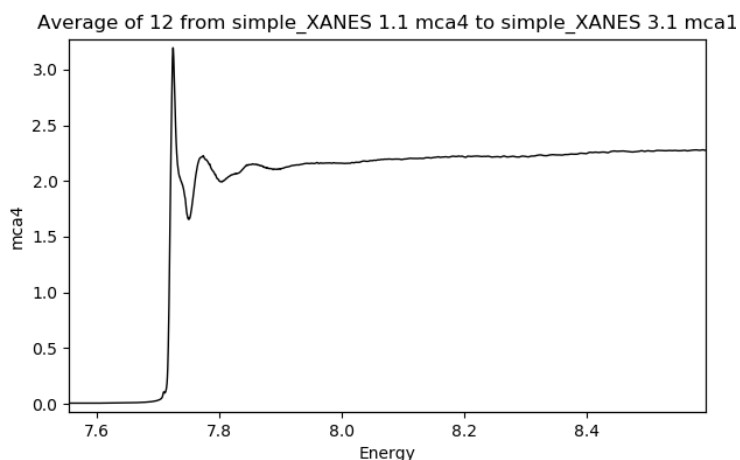

Figure 2-1: The averaged spectrum is shown.
- 1) With that out of the way we can move on to processing some EXAFS. The first few steps here will hopefully be at least somewhat familiar from the XANES tutorial since the first steps of processing XANES and EXAFS data are exactly the same; in fact, we'll be using the exact same scans for EXAFS that we used for the XANES tutorial. Since we've already established that those spectra are not damaged, we can go ahead and average the data from the three XAS scans if they aren't already (if you hadn't already done this, you would want to do it in the same way we did in the XANES tutorial). Plot the data as we did before, selecting the "Energy" channel for the x axis, the "mca1", "mca2", "mca3", and "mca4" channels for the y axis, and the "ion3" channel for mon. With that setup done, plot all three spectra together and then go ahead and average all mca channels for all three scans together. Your plot should look like Figure 2-1.